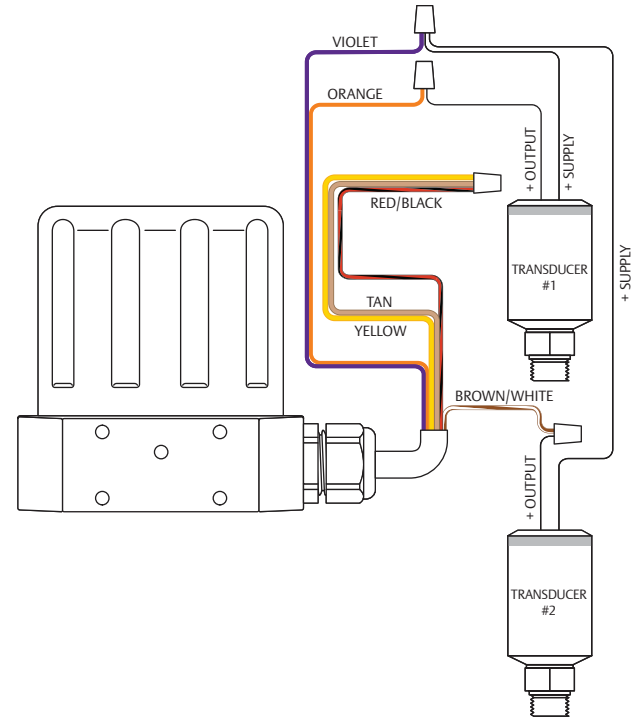

Figure 39: Switch Between Two External Feedback Sources
**NOTE** The wiring shown in Figure 39 on the previous page is for two wire transducers. Refer to Figure 32 and Figure 33, respectively, for correct wiring of three wire and four wire transducers.
The ER5000 can monitor signals from a number of analog sources, as well as monitoring the state of internal variables, during normal system operation. This is useful for data acquisition to perform trend analysis on the system. The two transducers (e.g., with outputs P1 and P2) shown in Figure 39 on the previous page can be continuously monitored by a PC program such as the ERTune™ program.